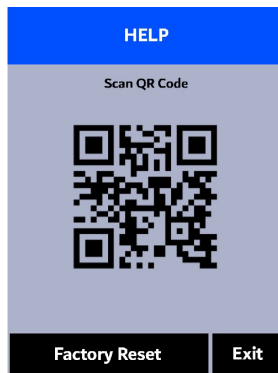

Figure 11.
5. Press **Help** (**>**) to launch the **HELP** screen (Figure 11).